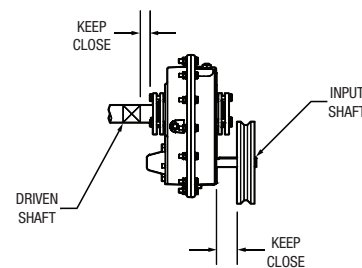

Figure 2 - Reducer and Sheave Installation
4. Install sheave on input shaft as close to reducer as practical (Figure 2).